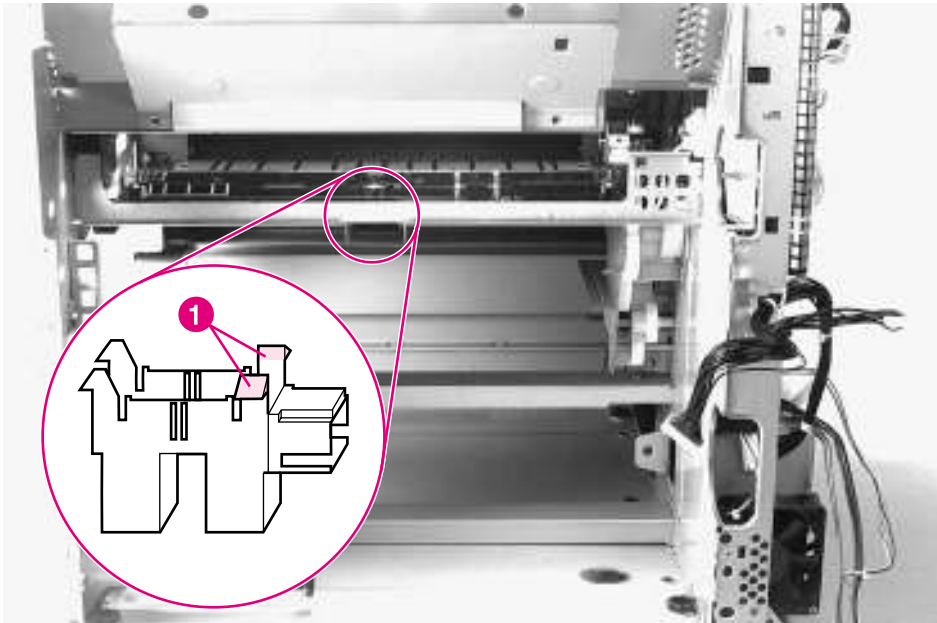

Figure 6-60 **Registration Sensor (PS1)**
- 3 Release the retaining tabs (figure 6-60, callout 1) on the right end of the sensor and rotate the sensor down to free the tabs on the left end of the sensor.